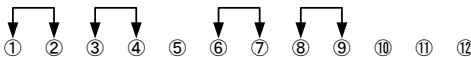

Fig. 2
* The color combination is ether item 1 or item 2.
- Make sure that the rear-panel output terminals and control terminals are connected with jumpers as shown Fig. 2.